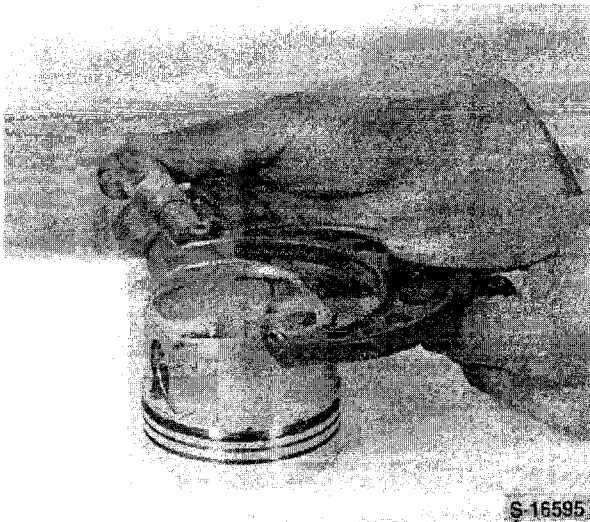

Figure 56
3. Using a micrometer, check the piston diameter at 90° from the piston pin bore, Figure 56.